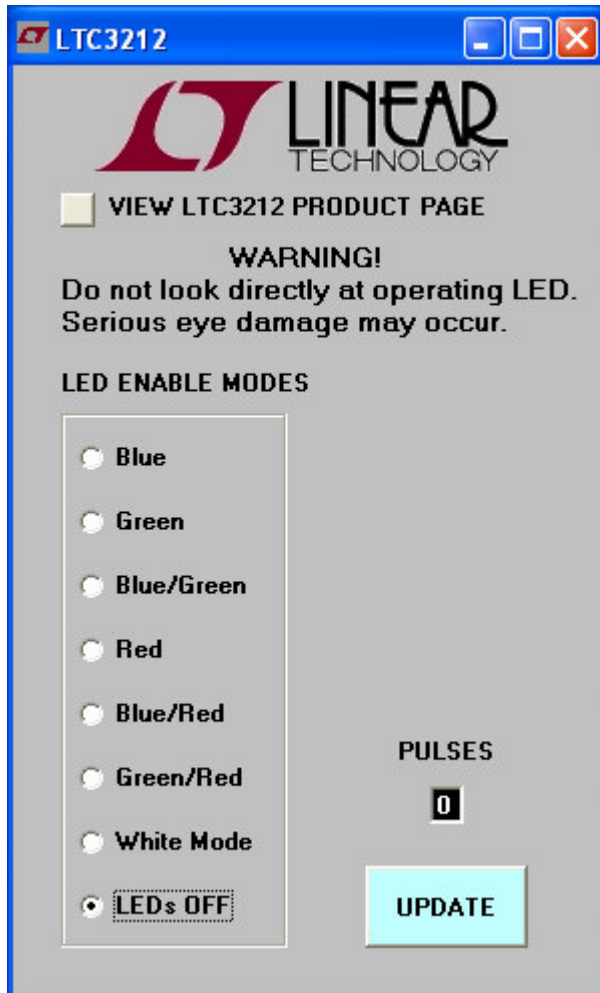

Figure 3. LTC3212 Control Window
9. Run the QuikEval program. The program detects the DC1187 and displays the LTC3212 control window (shown in Figure 3).